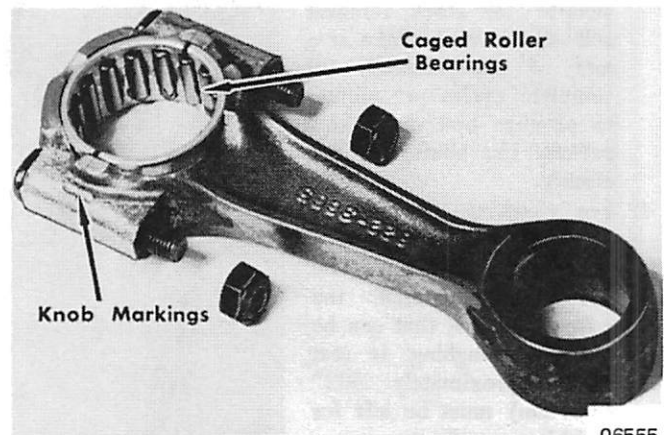

Figure 4. Rod and Reed Bearings
6. Prepare connecting rods, opening matched assemblies (one at a time) by removing cap. Watch knob markings on cap and rod for reassembly. (Figure 4)
10. Place connecting rod cap so that knob markings match connecting rod. (Figure 4)